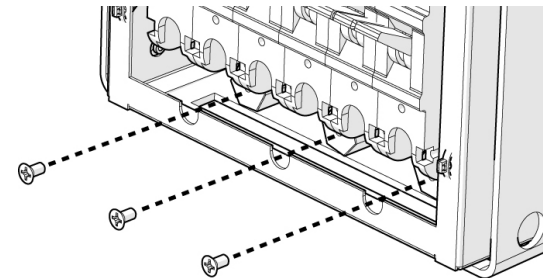

Figure 5. Phillips head screws
Step 3. Remove the three pre-installed phillips-head screws from the glastic isolators as shown in Fig. 5.